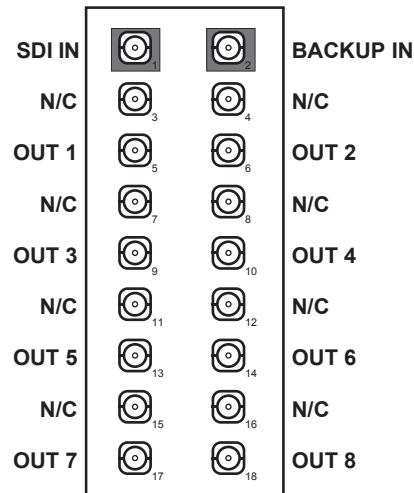

Figure 2.3 Cable Connections for the 8320AR-302 Full Rear Module
- 8320AR-302 Full Rear Module — Each rear module occupies two slots and accommodates one card. This rear module provides an SDI input, an auxiliary input, and eight SDI outputs via HD-BNC connections. (**Figure 2.3**)